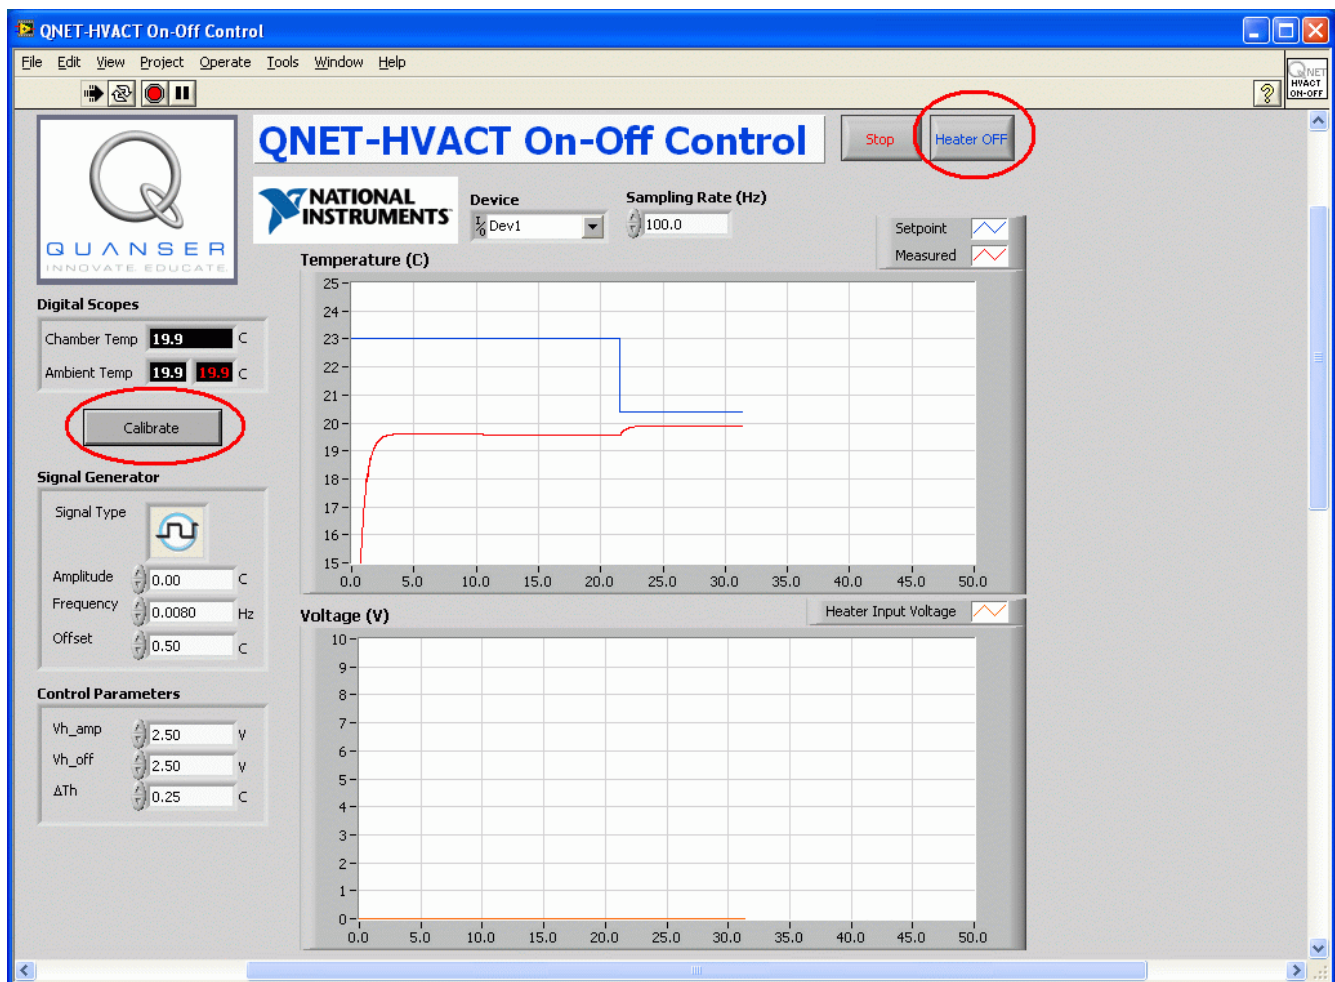
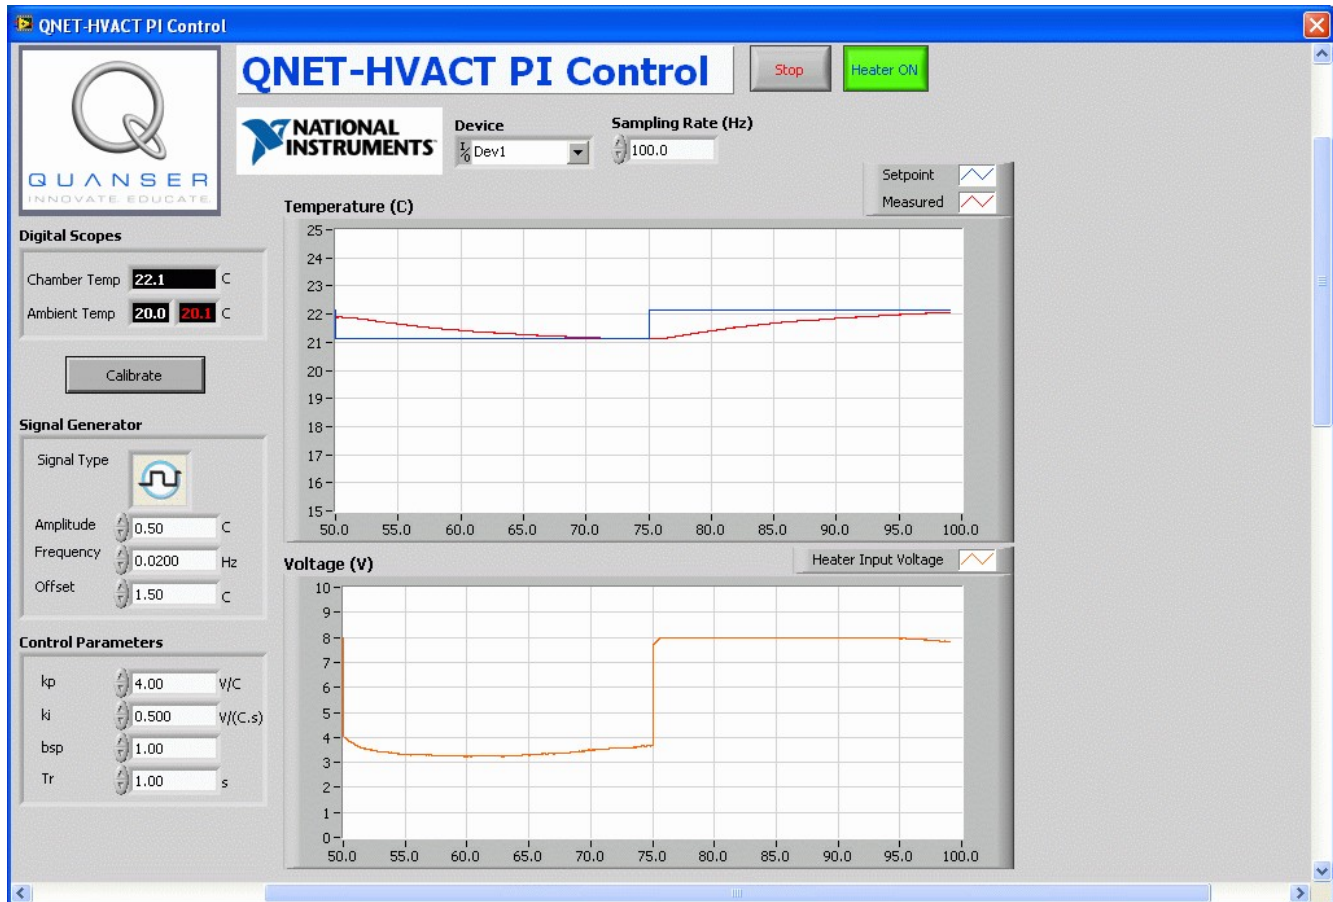

Figure 5: Calibrating the temperature in the QNET HVACT On-Off Control VI.
Figure 7: QNET-HVACT PI Control VI.
3. Run the QNET_HVACT_On_Off_Control.vi shown in Figure 5, below..
4. The cooling fan is automatically activated when the *Prototyping Board Power* switch on the ELVIS unit is on. Let the actual temperature, T_c , in the *Temperature (C)* scope settle until it stops decreasing.
5. Adjust the *Temperature (C)* scope scales to see both the reference and actual temperatures (see Reference [1] for help).
6. As illustrated in Figure 5, calibrate the temperature sensors by clicking on the *Calibrate* button. This will align the chamber temperature, T_c , to the measured ambient temperature, T_a .
7. Activate the control by clicking on the *Heater OFF* button (in the top-right corner of Figure 5).
1. Run the QNET_HVACT_PI_Control.vi, as shown in Figure 7, below.
2. The cooling fan is automatically activated when the *Prototyping Board Power* switch on the ELVIS unit is on. Let the actual temperature in the *Temperature (C)* scope settle until it stops decreasing.
3. Adjust the *Temperature (C)* scope scales to see both the reference and actual temperatures (click here for help).
4. As illustrated in Figure 5, above, calibrate the temperature sensors by clicking on the *Calibrate* button. This will align the chamber temperature, T_c , to the measured ambient temperature, T_a .
6. Adjust the *Temperature (C)* scope scales to see both the reference and actual temperatures (see Reference [1] for help).